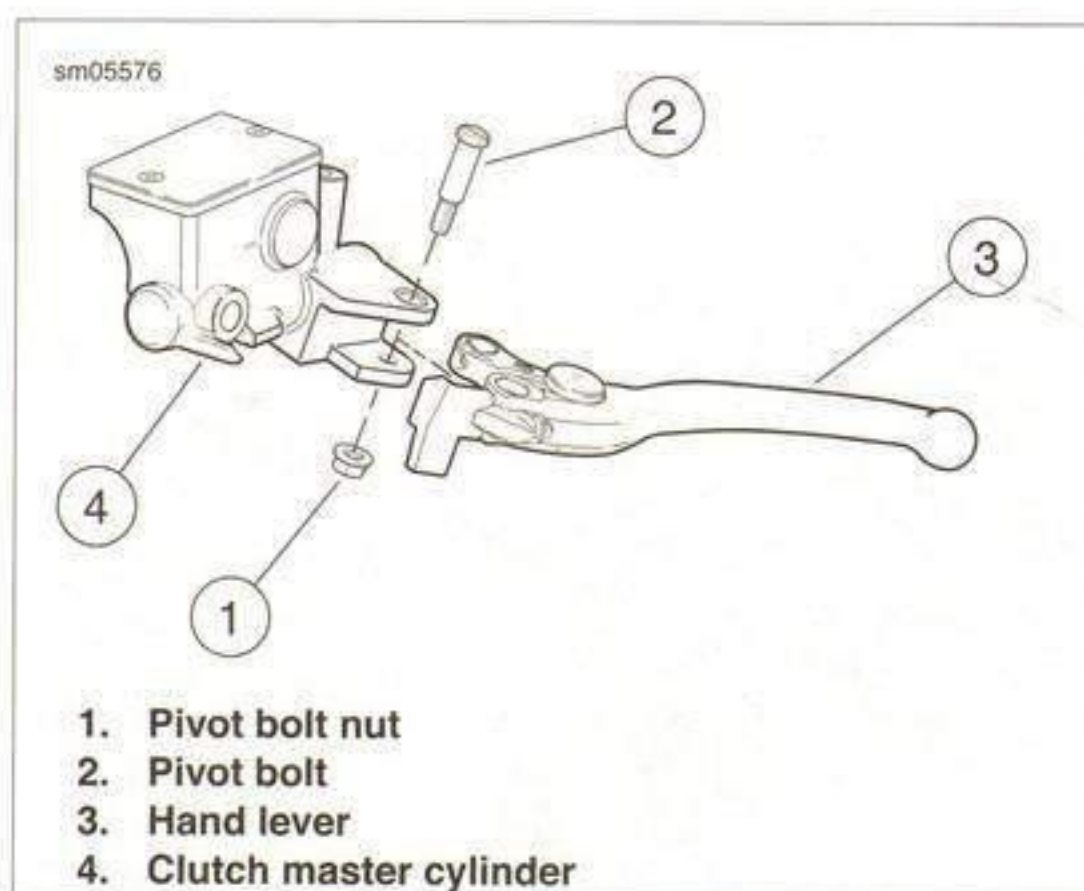

Figure 6-1. Clutch Lever Assembly
1. See Figure 6-1. Remove pivot bolt nut (1).
2. Remove pivot bolt (2), then remove hand lever (3) from clutch master cylinder/reservoir (4).